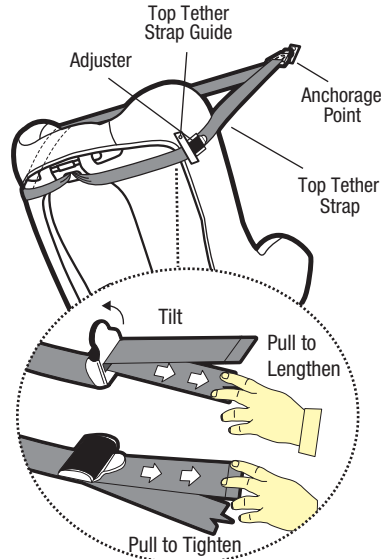

Figure 9
**Step 7:** Pull to tighten to remove all the slack, from the upper anchorage strap. Do not overtighten as this could cause the restraint to lift off the vehicle seat (refer to Figure 9).